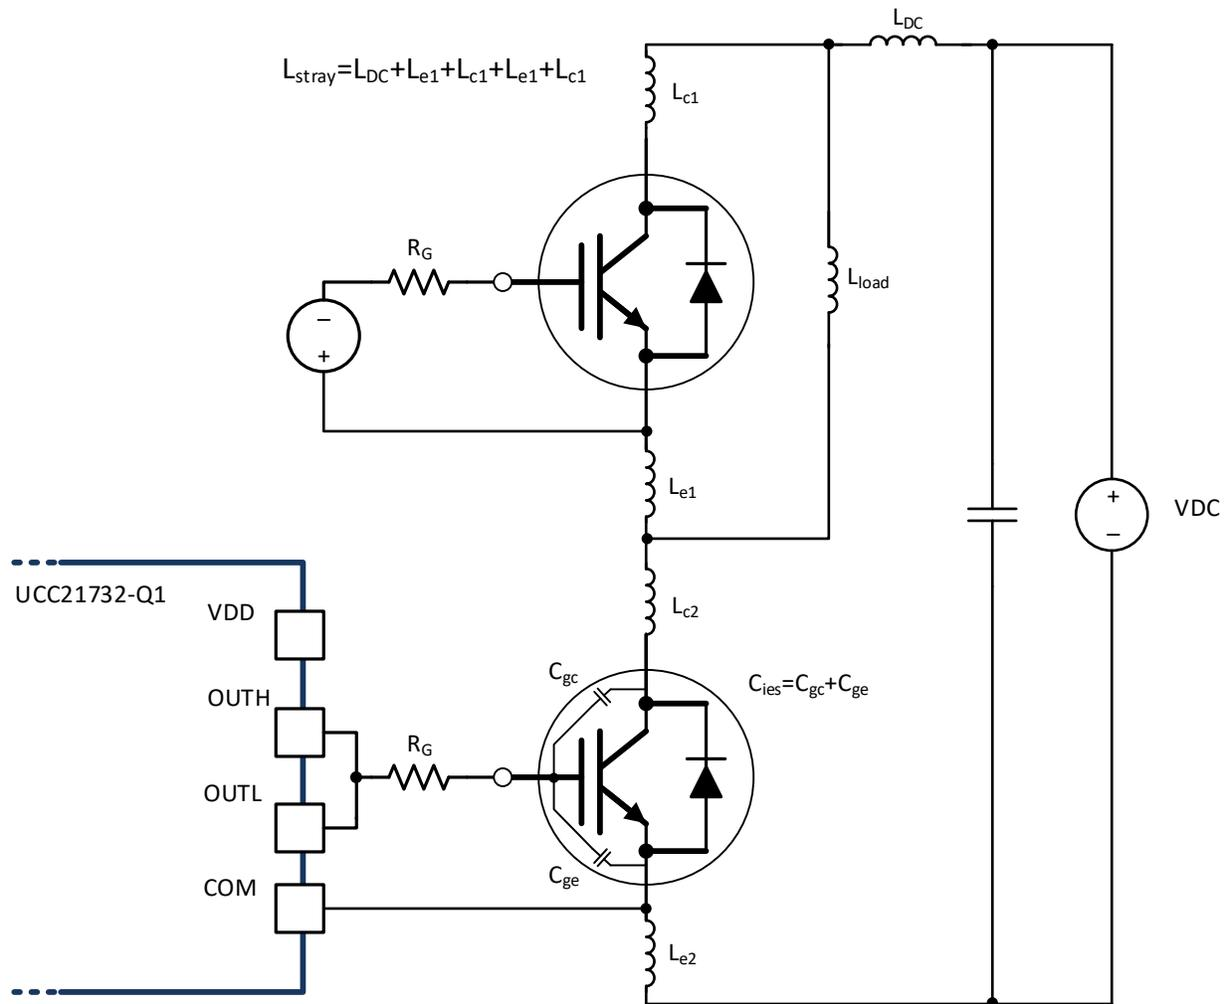

Figure 51. Stray Parasitic Inductance of IGBTs in a Half-Bridge Configuration
- L_{stray} is the stray inductance in power switching loop, as shown in Figure 51